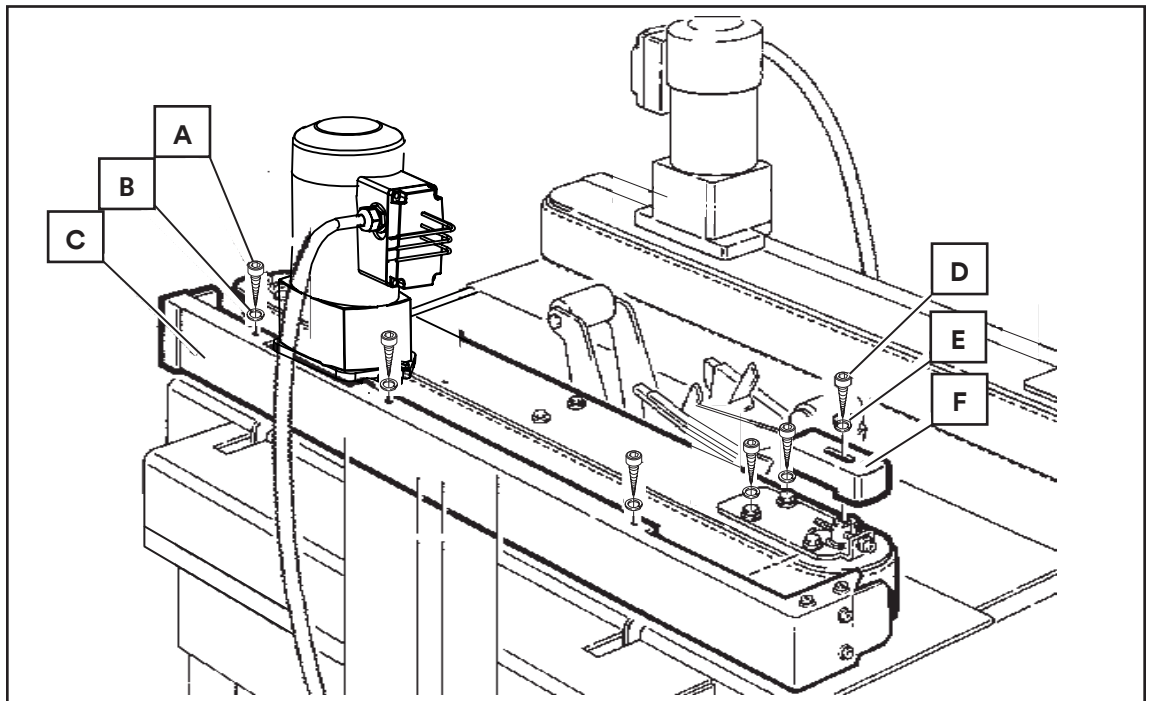

Figure 13-1 Box Drive Belt (Left Side View – Infeed End)
2. Remove and retain the five (5) screws (A), five (5) washers (B) and side cover (C) - See Figure 13-1.
3. Remove and retain the screw (D), washer (E) and belt tensioner cover (F).
8. Reverse procedures in Steps 1-3 (Figure 13-1) to reassemble the drive belt assembly.